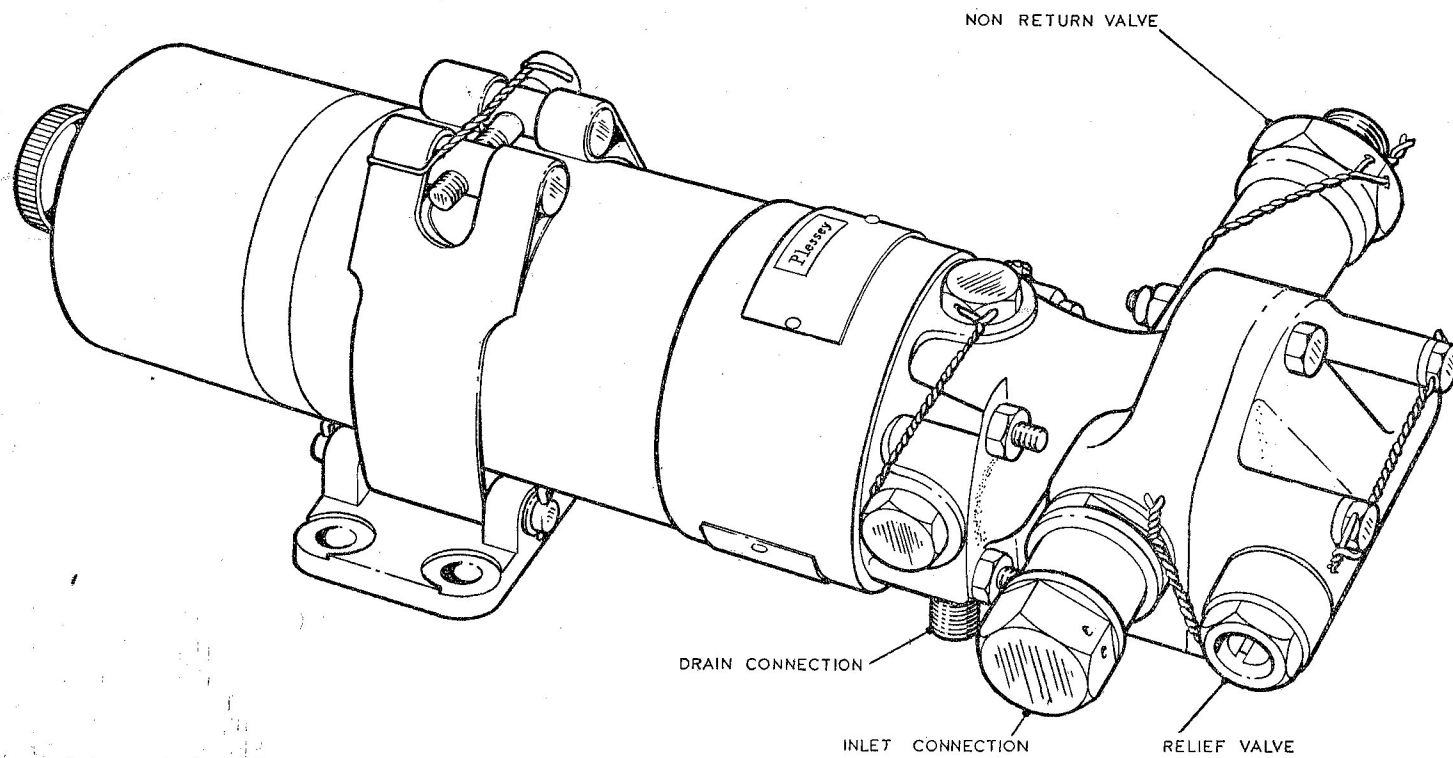

Fig. 1. General view of MB.022 pump
1. The Plessey Type MB.022 (fig. 1) is an electrically driven booster pump used for priming and starting gas turbine engines. The unit is described in A.P.4343D, Vol. 1, Book 2, Sect. 7, Chap. 34.